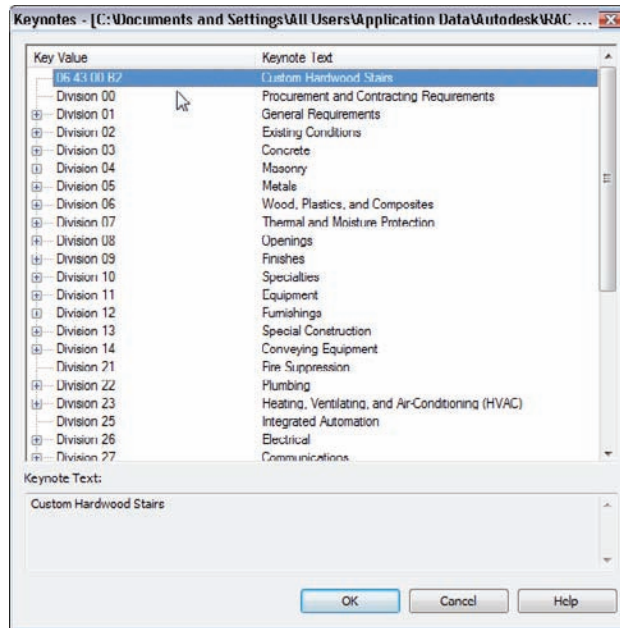

FIGURE 11.102 The new keynote
11. In the Keynotes dialog box, your new keynote will be at the top of the list, as shown in Figure 11.102.